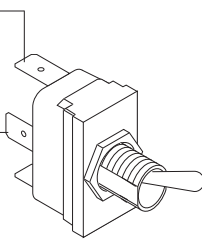

FIG. 40 TANK HEATER SWITCH TERMINALS
5. Connect the wires to the new switch, refer to fig. 40.